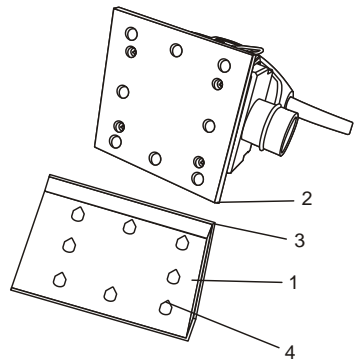

Fig. 6
2. Place the hole punch (1) on a sturdy flat surface (Fig. 6).
3. Align the corner of the sanding pad (2) with the corner of the hole punch (3). This will ensure the holes are punched in the correct location.